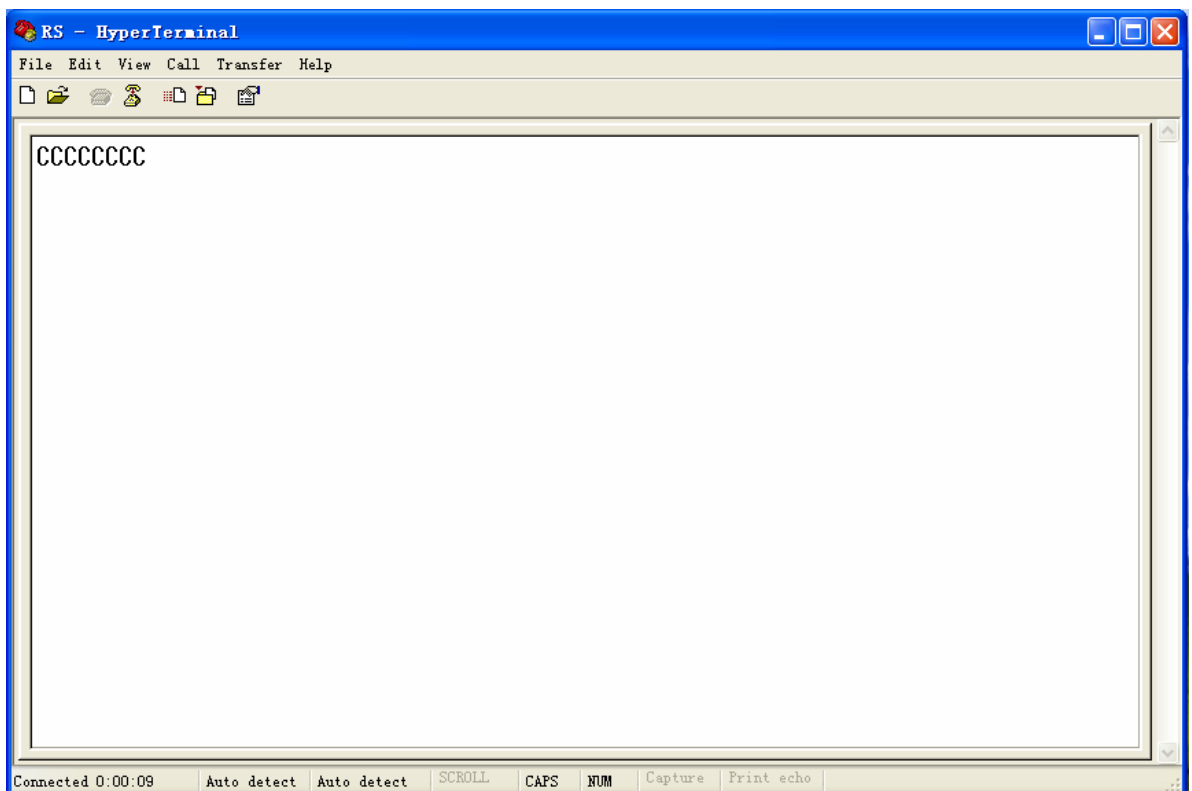
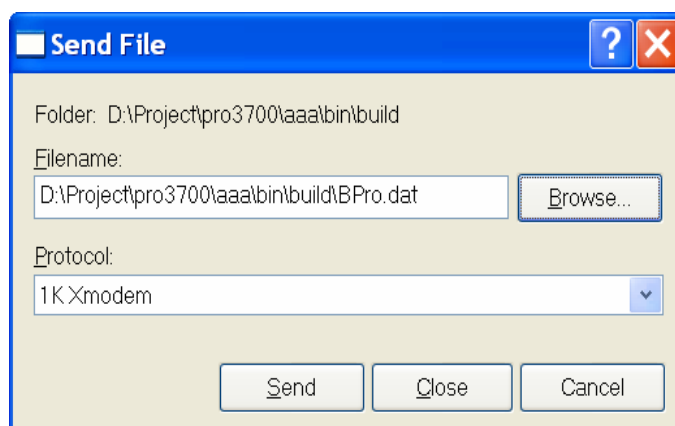

Figure 1-5
Figure 1-6
7. After figure 1-5 appears, open the menu "Transfer", "Send", then "Send file", the figure 1-6 turns out. Find the software needed through the button "Browser", and then select "1k Xmodem" in "Protocol". Press the button "OK".